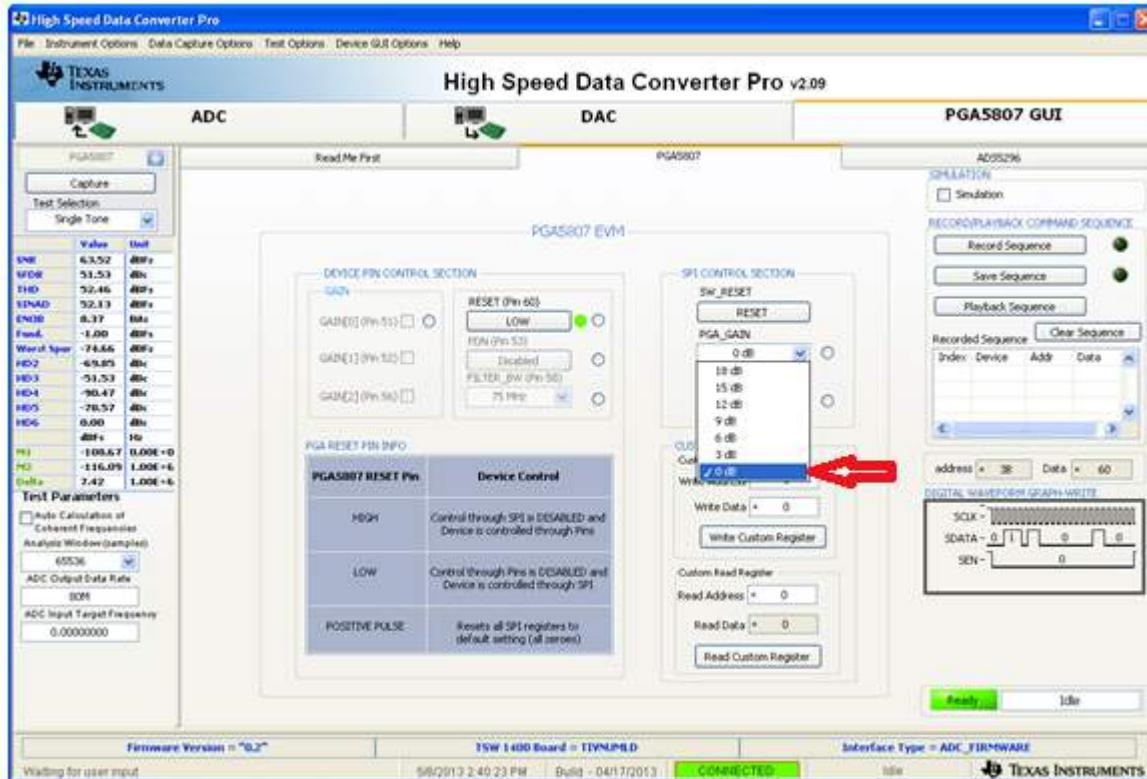

Figure 46. PGA5807 GUI Setup for PGA5807A + ADS5296A SNR, THD, Gain Test 2
4. Return to the *PGA5807* tab and change the *PGA_GAIN* in the *SPI CONTROL SECTION* to 0 dB as shown in Figure 46.